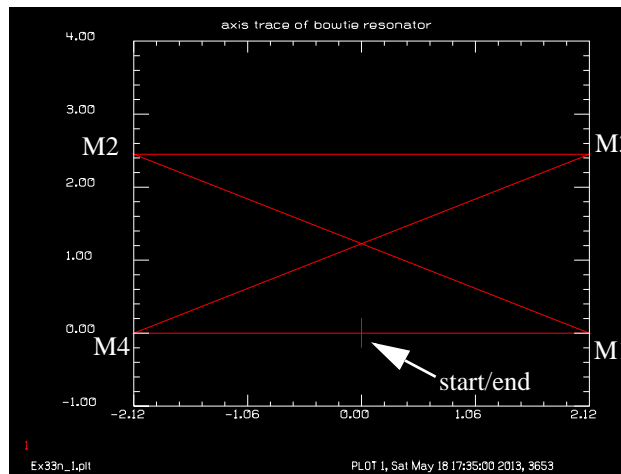
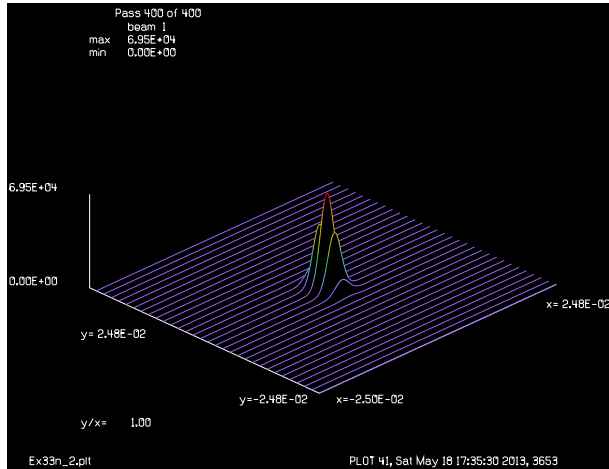
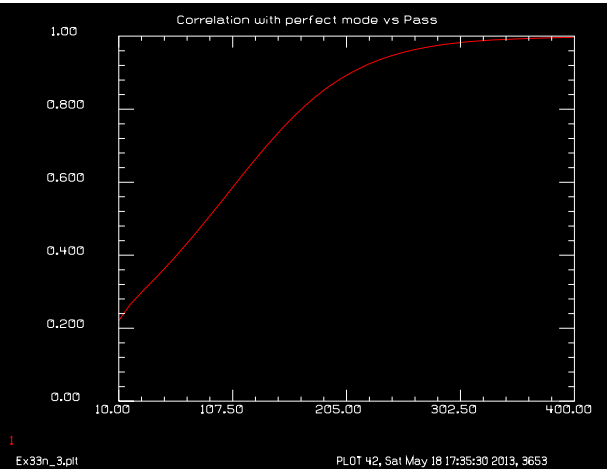

Fig. 1.23. Path of center ray for bowtie resonator. The calculation emanates from “start” and proceeds to M1, M2, M3, and M4 and finally returns to “end”.
Fig. 1.24. Converged mode for bowtie resonator after 400 passes.
Fig. 1.25. Correlation of cavity mode for bowtie resonator with ideal mode versus pass number, showing a high degree of convergence to the ideal mode.
- Example Ex33n illustrates a bowtie resonator using global positioning. See the configuration Fig. 1.23, converged mode Fig. 1.24, and correlation with the ideal mode Fig. 1.25.